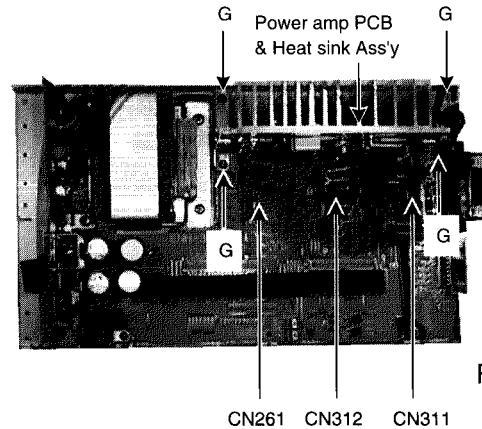

Fig.5
- 1.Remove 4 screws(G)fastening the Bracket of Heat sink (Fig.5).